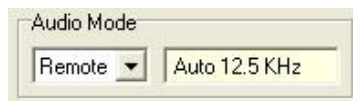

Figure 6. NI ET – Audio Mode to 'Remote'.
- 15.3. On the Main Audio tab, ensure that the Audio Mode is set to 'Remote'. If necessary, use the drop-down list to change the audio mode (see **Figure 6** below).